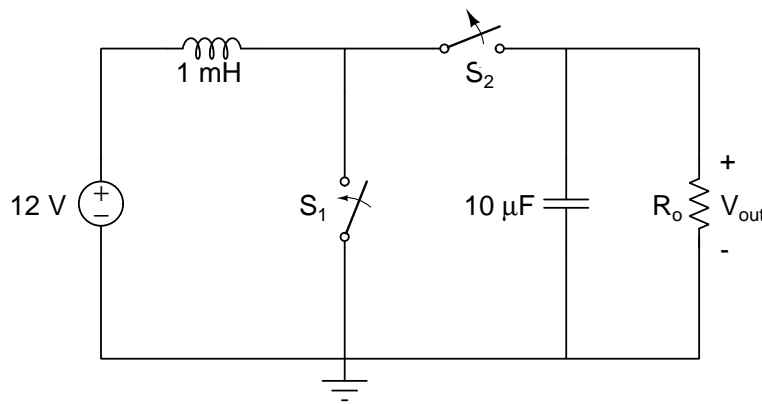

Figure 1: A boost converter circuit containing two synchronized switches.
**Introduction:** In this lab, you will design, simulate, build, and test a boost converter based on the switched capacitor circuit shown in Figure 1.
Figure 2: Boost converter circuit implemented with an NMOS transistor driven with a function generator (FG) to represent the switch  $S_1$  and a diode to represent the switch  $S_2$  in Figure 1.